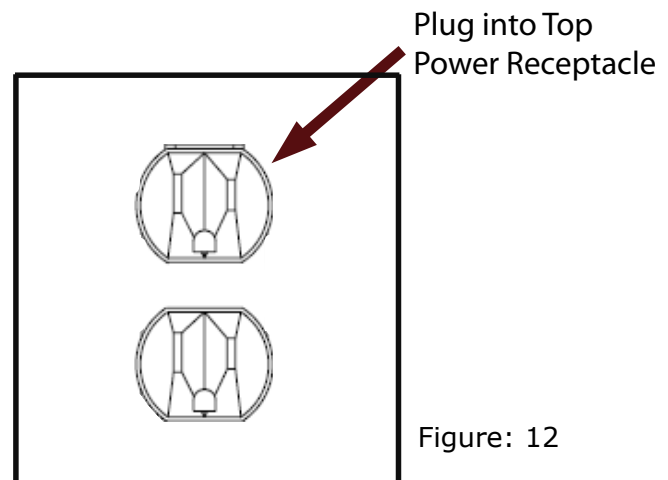

Figure: 12
**Step 6:** Insert 3-Prong Plug into Top Power Receptacle of Junction Box (Figure: 12).